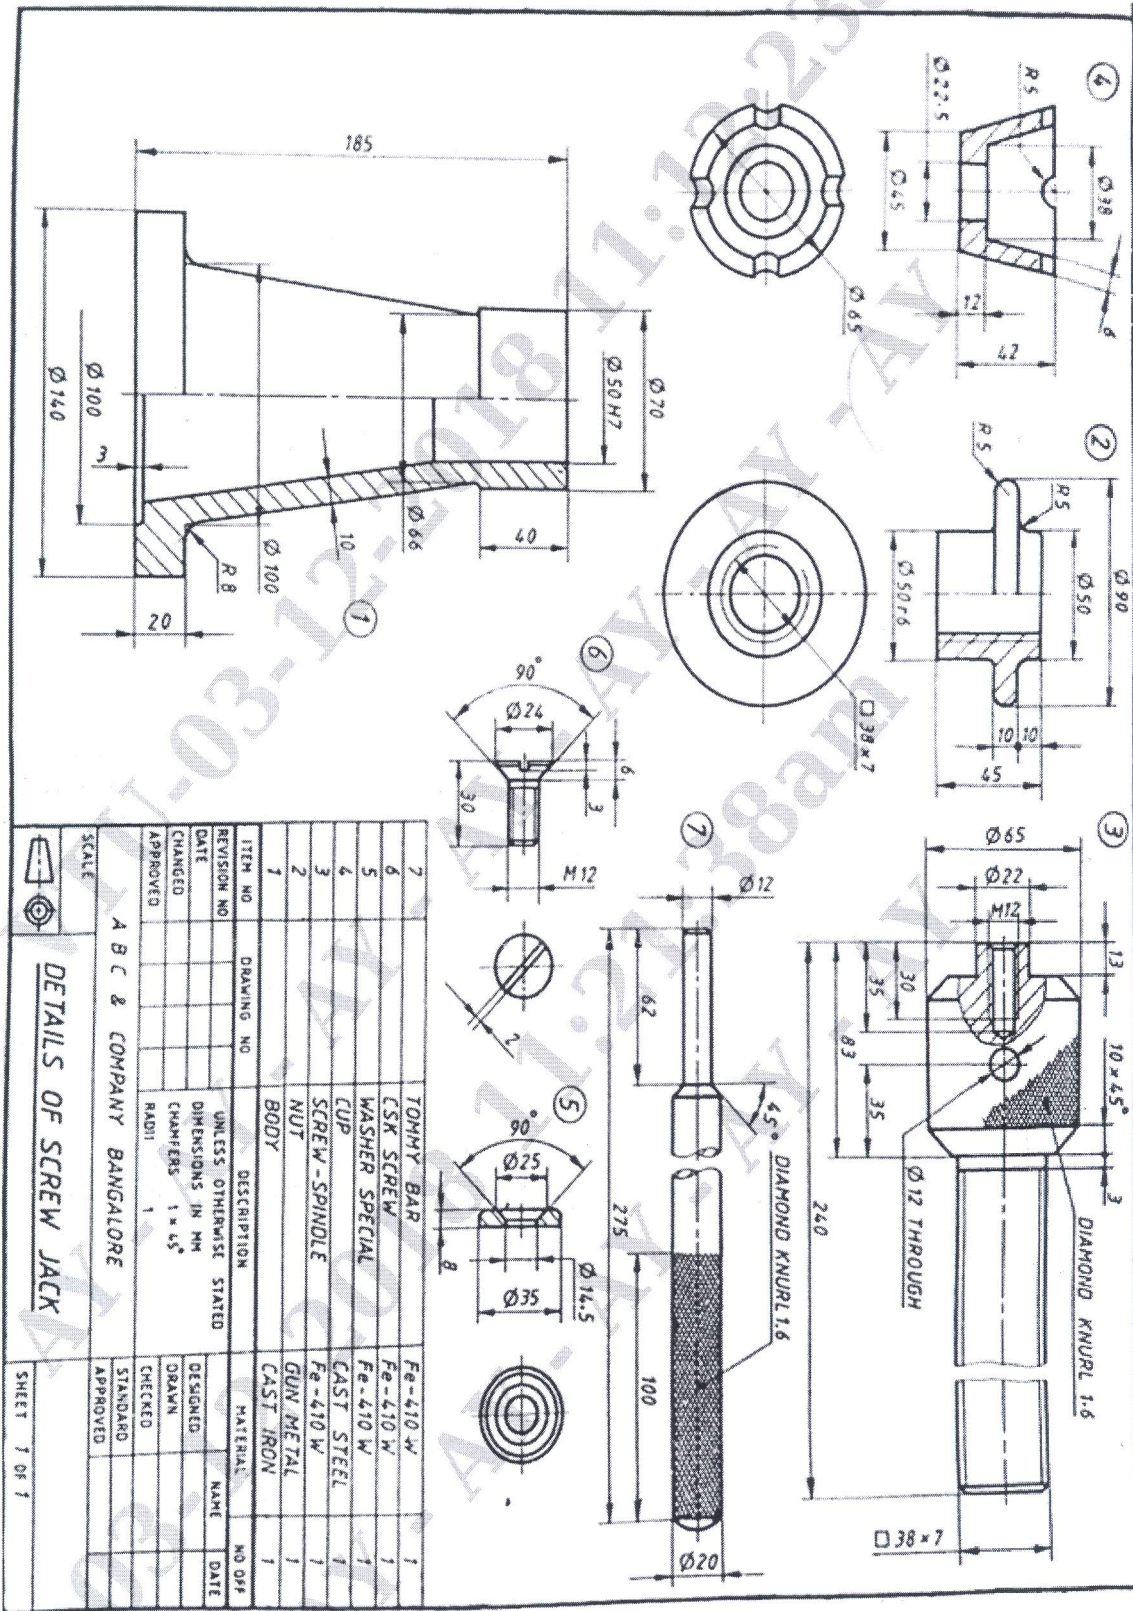

Figure 2
- Q.No.6** Figure 2 shows the details of 'Screw Jack'. Assemble the parts and draw the following views of the assembly.